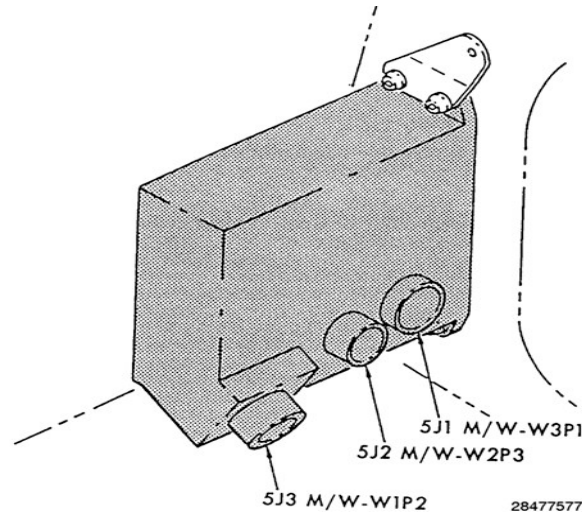

Figure 2-9. Electrical power junction box (J-Box).
The electrical J-box is located in the aft engine compartment on the left hand (LH) aft end side of fuel tank 4 (fig. 2-9). Its function is to receive power (carrier power or air vehicle power), distribute it to missile equipment, and isolate power sources from each other after power transfer. For example, after the generator takes over from the battery, the J-box prevents generator provided power from going to the battery and battery residual power from being distributed to the missile. It provides power distribution in conjunction with the UEA.